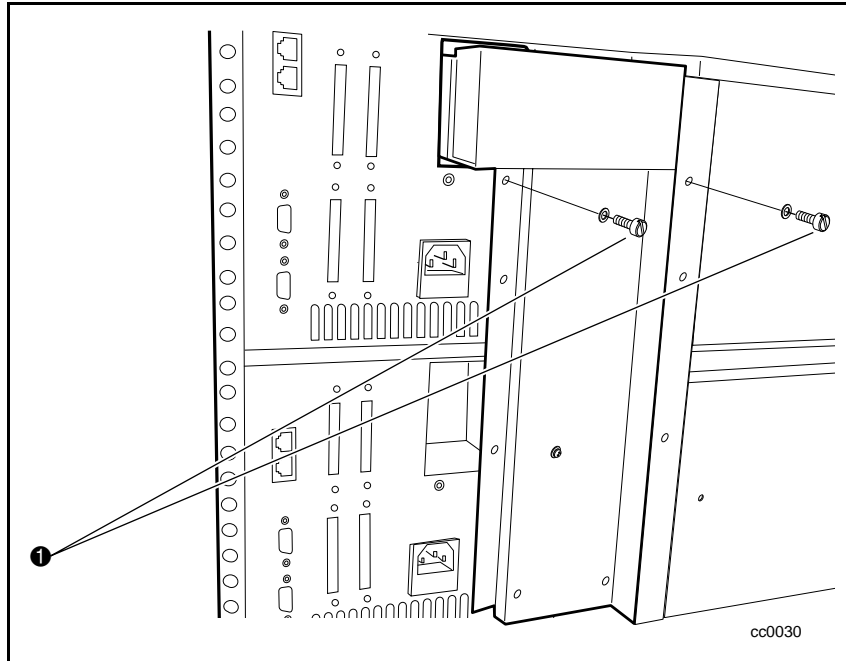
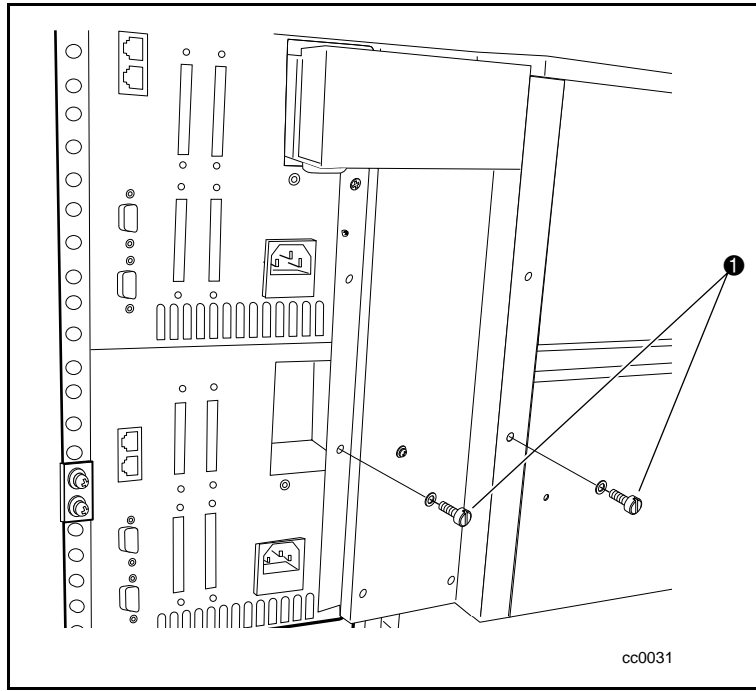

Figure C-11. Securing the PTM to the master unit
Figure C-12. Securing the PTM to the slave unit
7. Attach the PTM to the master (top) unit using two bullet-nose thumbscrews ❶ and washers through the top two holes in the extrusion (see Figure C-11). Do not fully tighten the thumbscrews at this time.
- Align the two holes on the extrusion with mounting holes on the slave unit and attach the PTM in place using two bullet-nose thumbscrews and washers (❶ Figure C-12). Do not fully tighten the thumbscrews at this time.
5. Remove the bullet-nose thumbscrews and washers (two per unit) that secure the PTM to the Library units (see Figure C-11 and Figure C-12).